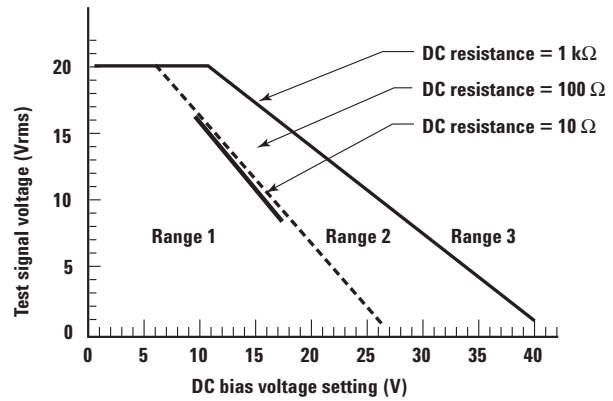

Figure 1-2. Test signal voltage and DC bias voltage upper limits apply for relative accuracy
5. Test signal voltage and DC bias voltage are set according to Figure 1-2.